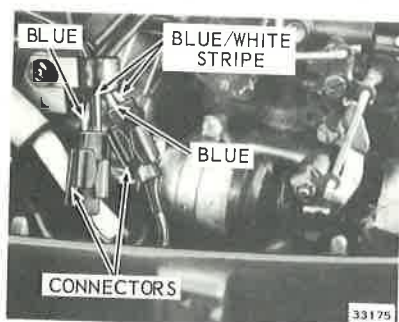

Figure 4-12. Stop/Key Switch Connectors
- Disconnect the two single connectors (with two leads each). These are the stop/key switch leads. See Figure 4-12.